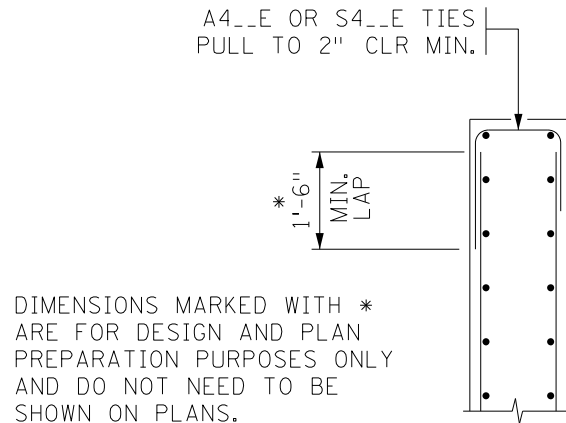

Figure 3
5. For wingwalls that do not have a barrier mounted on top, use a U-shaped tie at the top of the wall. (See Figure 3.) Ties are not needed at the ends of wingwalls or at the bottoms of wingwalls that cantilever past the end of a footing. Additionally, ties are not necessary on the tops of wingwalls with a barrier mounted on top, as long as the barrier dowel is adequately lapped to the wingwall vertical bars. Choose bar marks for the ties that correspond to the concrete pour associated with them, i.e. - if the concrete around them is abutment concrete, designate them as A bars; if the concrete is superstructure concrete, designate them as S bars.